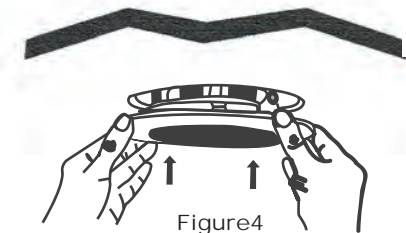

Figure4
STEP5: Tuck all wires into the housing and carefully push the LED trim until its outer edge is flush against the ceiling surface. (Figure 4)